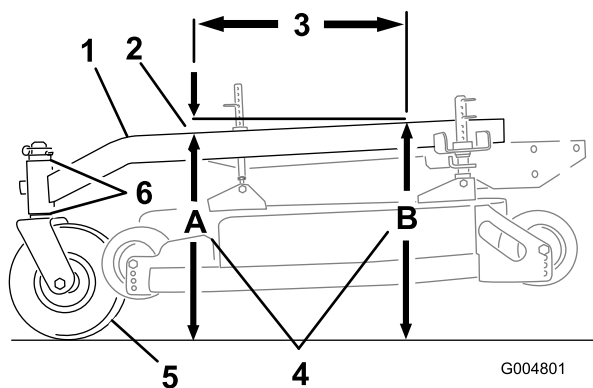

Figure 71
The carrier frame must have a pitch between 1/8 inch (3 mm) to 3/8 inch (9 mm) over the length of 24 inches (61 cm) on the carrier frame (Figure 71).
1. Measure out 24 inches (61 cm) on the carrier frame (Figure 71).
- Measure carrier frame height at location **A** (Figure 71).
- Measure carrier frame height at location **B** (Figure 71).
- The height at location **A** must be an 1/8-3/8 inch (3 mm -10 mm) lower than location **B** (Figure 71).
- If the carrier frame is not correct, move caster spacers to make it an 1/8-3/8 inch (3 -10 mm) pitch (Figure 71). Move spacers from top or bottom to make the correct pitch.